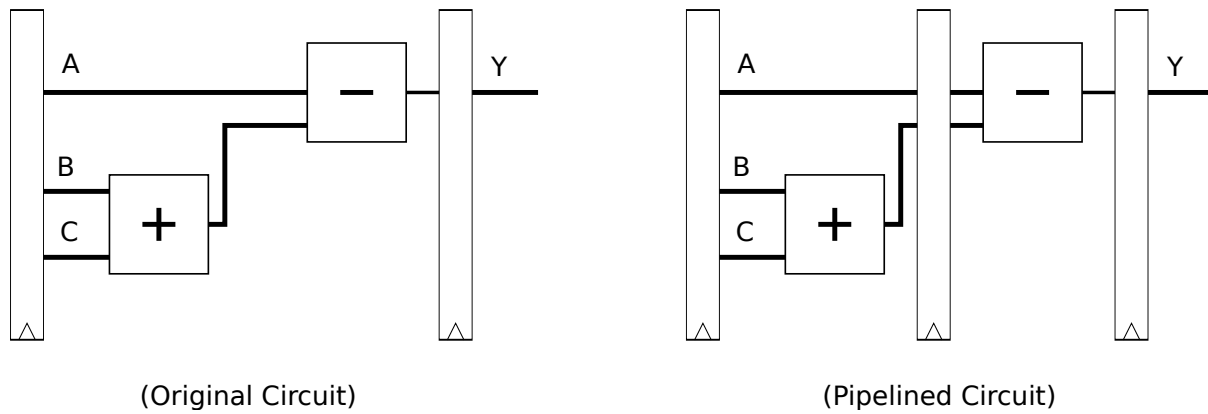

Figure A.2: Pipelining a feedforward circuit.
In theory, any feedforward circuits can be sped up by pipelining the datapath. For instance, Figure A.2 shows two circuits that perform $Y = A - (B + C)$. The only difference is that the circuit on the right has an additional pipeline stage and thus incurs an additional cycle of latency.
A.2.1 Determine the maximum clock period that the circuit in Figure A.2 may run at without violating any of the setup and hold time constraints.